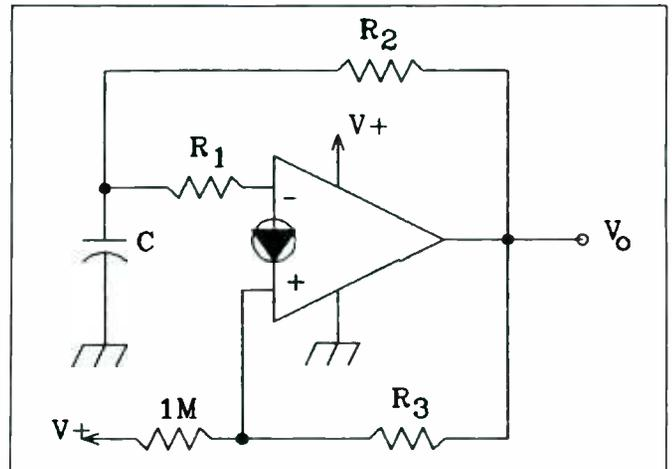

Fig. 10. Norton op amp square-wave oscillator circuit.
• *Square-Wave Oscillator.* Figure 10
The output voltage from the Fig. 10 oscillator will swing from reference ground to approximately the entire level of the V_+ supply line. The values of R_1 and R_2 are 470,000 and 30,000 ohms, respectively, for biasing purposes. Therefore, the values of R_3 and C determine actual frequency of oscillation.